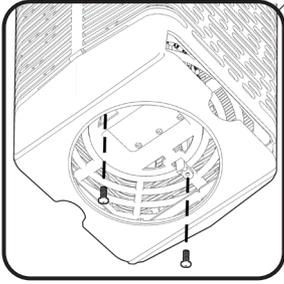

Fig. 1
3. Remove both screws securing grate panel. (Fig. 1)